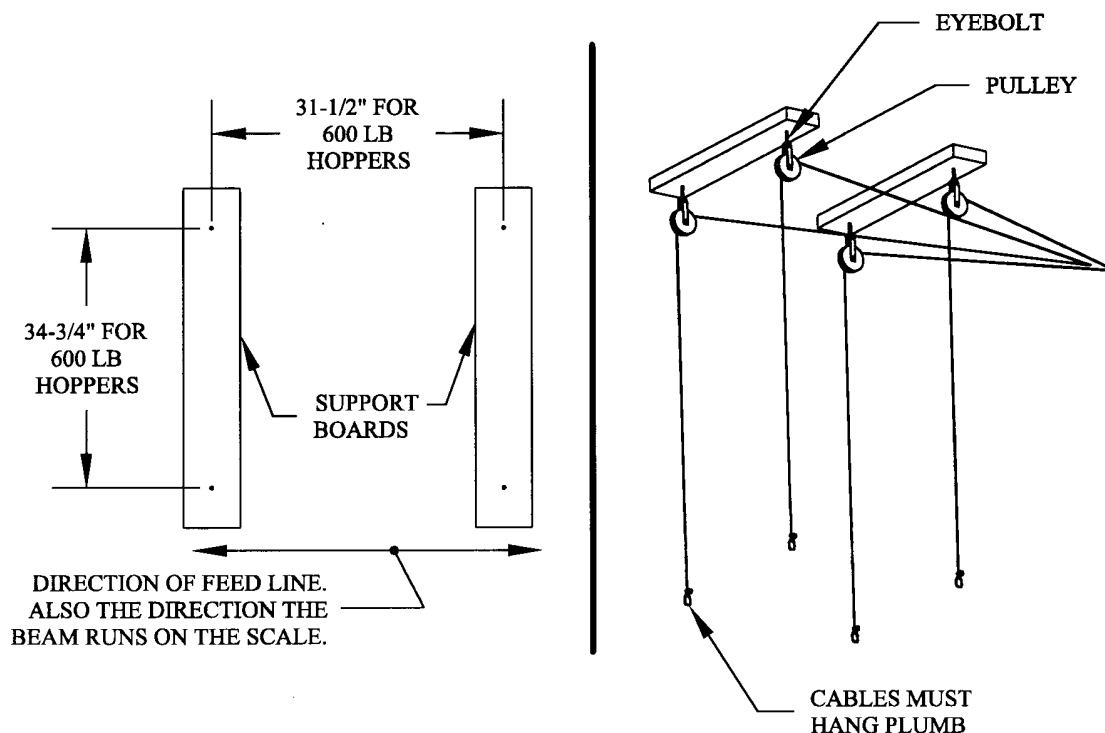

FIG. 1
STEP 1. After the rooster feeder is winched and cabled, you will need to find the location for the four (4) cable pulleys required to support the scale and hopper assembly. Suggested boards for support (2" x 6" min) lagged correctly into trusses. For 600 lb hoppers, eyebolts should be spaced apart 34-3/4" x 31-1/2". See Fig. 1.